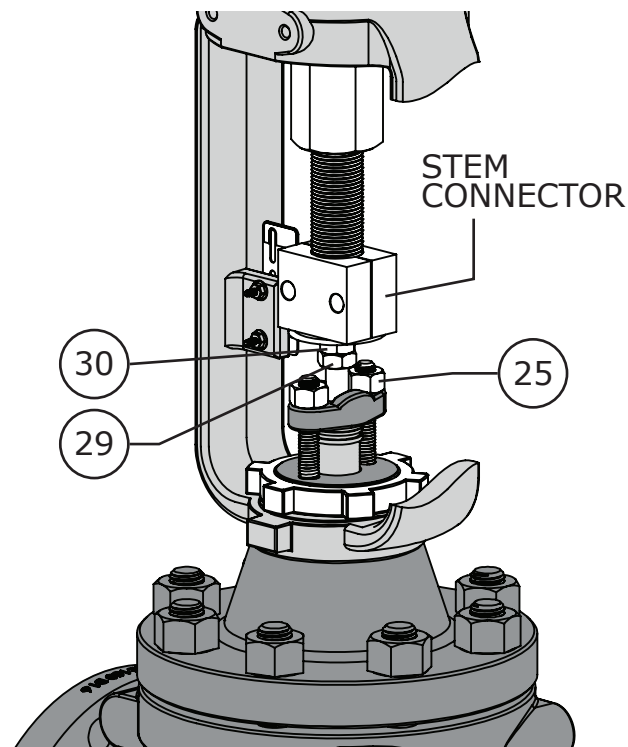

Figure 5 Packing Nut and Stem Connector Detail
- 5 Remove the stem connector (Refer to Figure 5).